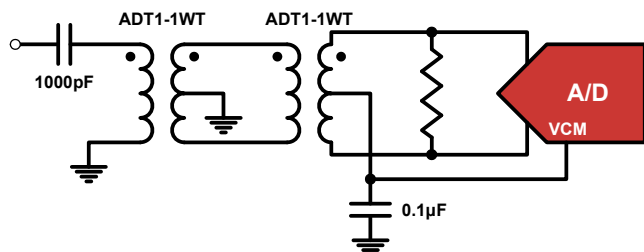

FIGURE 30. TRANSFORMER INPUT FOR GENERAL PURPOSE APPLICATIONS
Best performance is obtained when the analog inputs are driven differentially. The common-mode output voltage, VCM, should be used to properly bias the inputs as shown in Figures 30 through 32. An RF transformer will give the best noise and distortion performance for wideband and/or high intermediate frequency (IF) inputs. Two different transformer input schemes are shown in Figures 30 and 31.